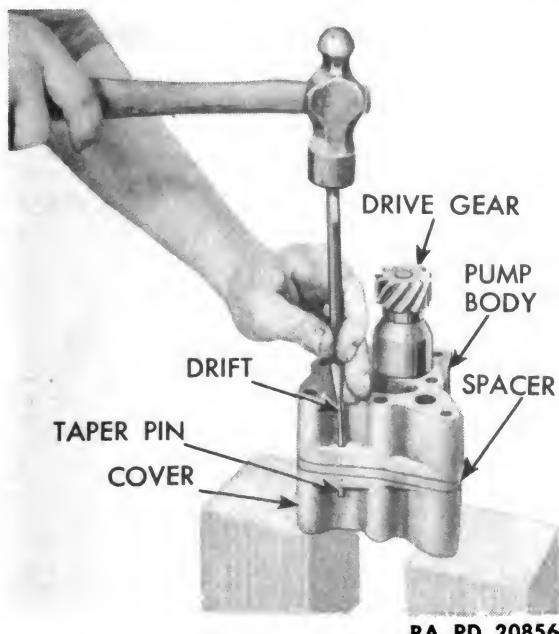
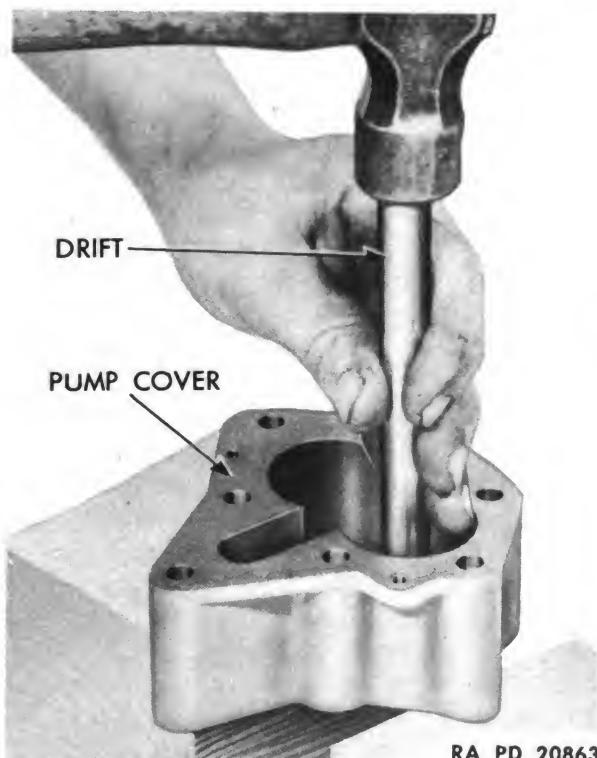
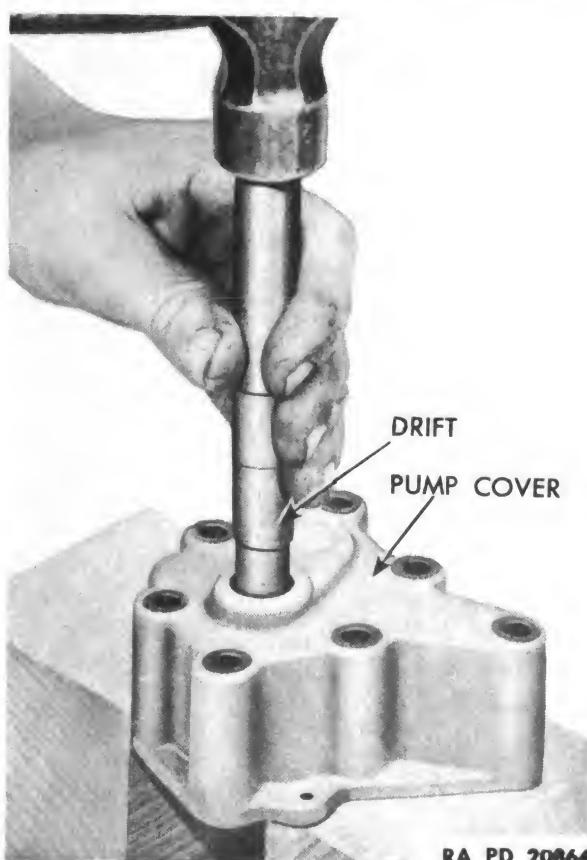

Figure 126 —
Figure 133 —
Figure 134 —
a. **Disassemble.** With a drift, drive out two taper pins holding pump body and cover together (fig. 126). Lift off scavenger oil pump cover (fig. 127). With a drift, drive out pin holding drive
- d. **Repair.** With a $19\frac{1}{32}$ -inch diameter drift, drive bushing out of oil pump cover (fig. 133). With same drift, drive new bushing in (fig. 134). Perform same operations on oil pump body, except that two bushings are used. Drive one bushing in from outside, and one in from gear bore side of body. Place scavenger pump spacer between body and cover, and bolt body and cover together with seven $5\frac{1}{16}$ -inch bolts and nuts. Do not tighten nuts. Drive two taper pins in holes in body and cover flanges. Tighten seven nuts. Line-ream bushings in cover and body 0.500 to 0.501 inch. Drive taper pins out (fig. 126), and remove bolts.